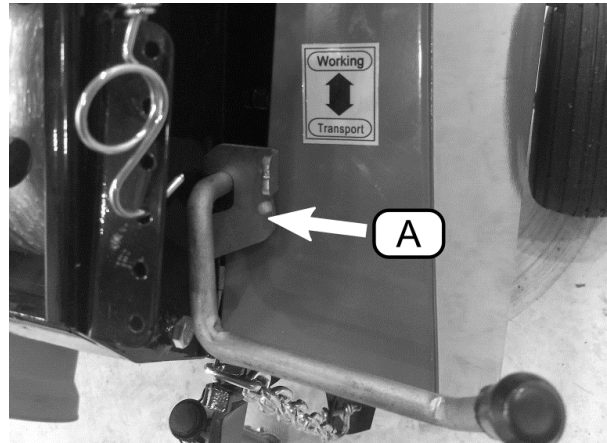

Figure 29 Front left side of baler
- The pickup may be lifted and locked in the transport position by means of the lift lever and transport lock (Figure 29, A).